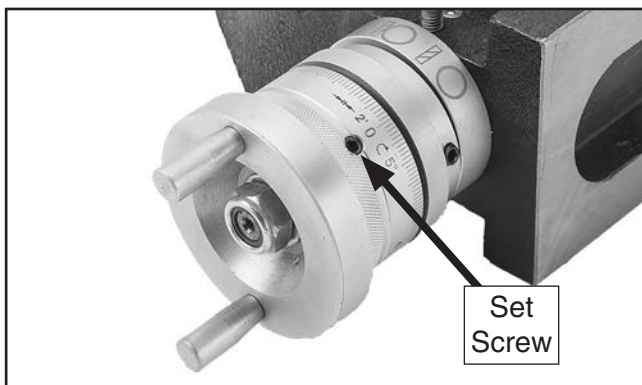

Figure 9. Location of collar set screw.
1. To adjust the collar, loosen set screw (see **Figure 9**) securing collar to handwheel, then rotate collar to desired alignment.